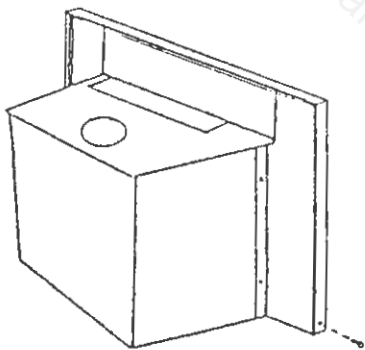

FIGURE 5 **Securing Panels and Brass Trim**
8. Next slip the brass trim over the top edge of the trim panels and slide all the way down until sides and tops interlock. Obtain screws provided and lock brass trim in place. (See Figure 5).